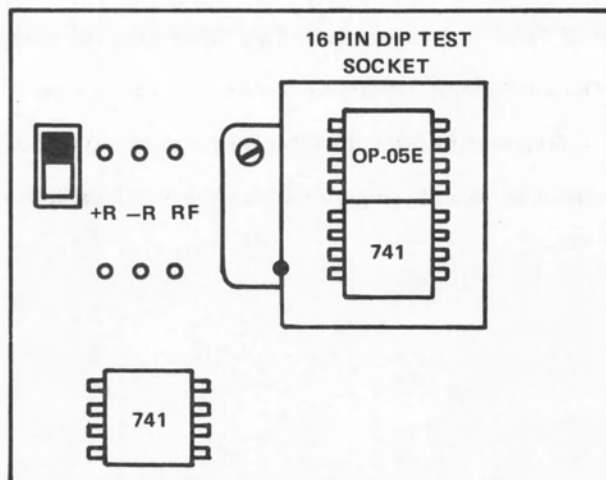

Fig. 5-3. Test circuit for CMRR adjust.
b. Construct the circuit of Fig. 5-3 on the Standard Op Amp card. This method uses an op amp having good CMRR and drives its terminals common mode, thereby improving the op amp CMRR to \approx 160 to 180 dB.